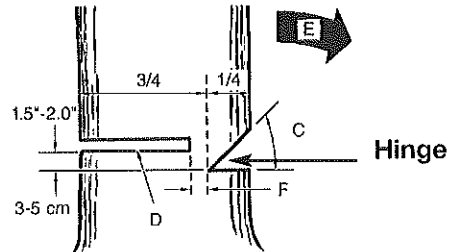

Fig. 13
Normally felling consists of 2 main cutting operations, notching (C) and making the felling cut (D) (Fig. 13).
Start making the upper notch cut (C) on the side of the tree facing the felling direction (E). Be sure you don't make the lower notch cut too deep into the trunk (Fig. 13).
The notch (C) should be deep enough to create a hinge (F) of sufficient width and strength. The notch should be wide enough to direct the fall of the tree for as long as possible (Fig. 13).
Make the felling cut (D) from the other side of the tree and 1.5 - 2.0 inches (3-5 cm) above the edge of the notch (C) (Fig. 13).
2. If the diameter of the tree is greater than the bar length, make 2 equal length cuts—one from each side of the tree directly in front of the notch cut as described in Fig.13